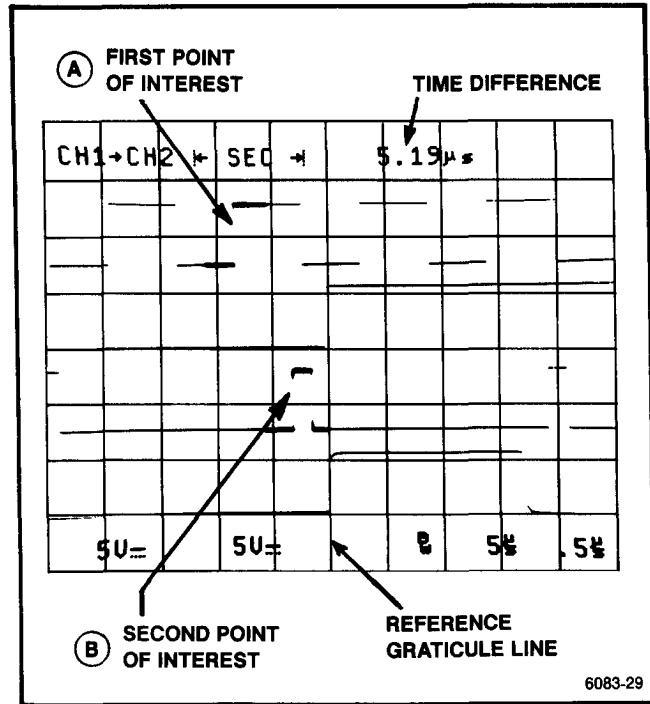

Figure 6-15. Time difference using  $\Delta$ TIME with two delays.
6. Using the center horizontal graticule line as a reference point, set the reference delay to align the point of interest to be measured (point A in Figure 6-15) from to that reference point with the  $\leftarrow$  or DELAY control. Set the  $\Delta$  delay to align the second point of interest, displayed in
the second B Sweep (point B in Figure 6-15), to the reference point using the  $\rightarrow$  or  $\Delta$  control. The measured difference between the two delays is displayed at the top of the screen.